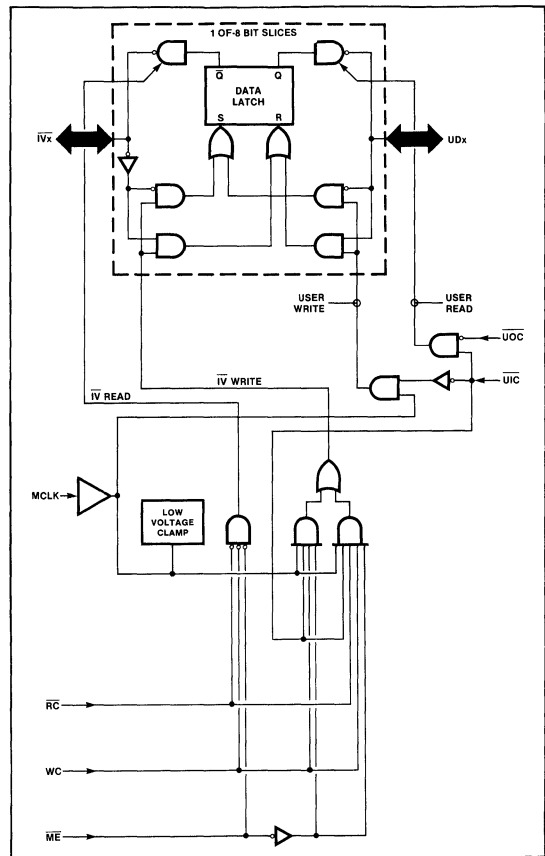

Figure 1. Logic Diagram for 8X371 I/O Port
compatible busses. Typically, the 8X371 is used with the 8X305 MicroController and its associated Interface Vector (IV) bus; however, it can also be used with the 8X300 MicroController or an equivalent microprocessor. The 8X371 is functionally the same and pin-for-pin compatible with the older 8T31/8X31 but features improved performance and increased drive current. As shown in the logic diagram of Figure 1, the 8X371 consists of eight identical data latches—bits 0 through 7. The latches are accessed from either of two 8-bit busses—the MicroController (IV bus) and the user data (UD bus). Separate controls are provided for each bus and both busses operate independently, except when both attempt to input data at the same time; in such situations, the user bus always has priority. A Master Enable (\overline{ME}) input is available for additional control over the IV bus. The data latches are transparent, in that, while either bus is enabled for input, all input-data transitions are propagated to the other bus, if enabled for output.